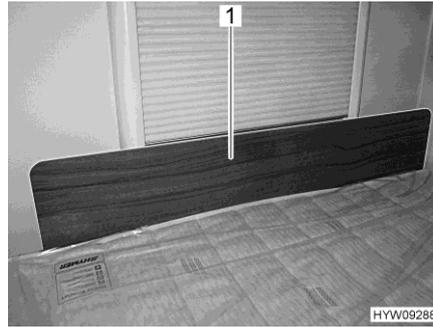

Fig. 110 Protective panel / fall out protection
- Plug in the protective panel (Fig. 110,1) in front of the window, between mattress and window frame. The clamping effect of the mattress holds the protective panel in its position in front of the window frame.